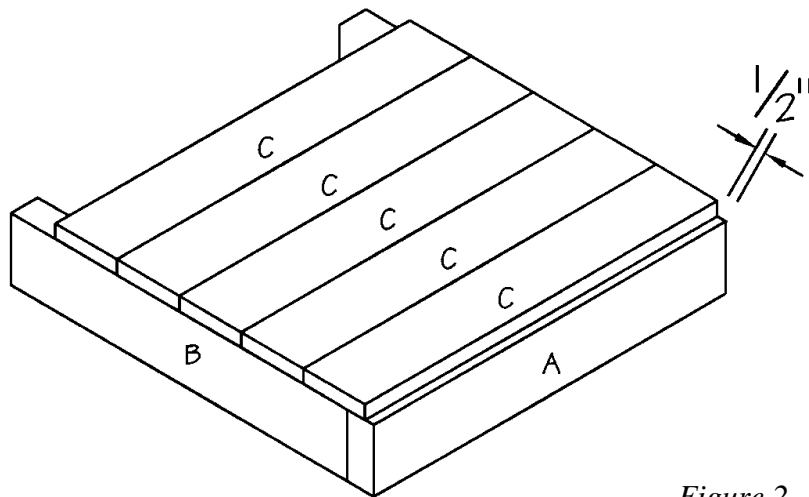

Figure 2
4. Cut five Seat Slats (C) from 1 x 4 pine, each measuring 20 inches.
5. Place the seat assembly [Seat Front (A) and Seat Sides (B)] on a flat surface. Position the five Seat Slats (D) over the assembly, as shown in *Figure 2*. The first Seat Slat (D) should be set back $\frac{1}{2}$ inch from the face of the Seat Front (A),